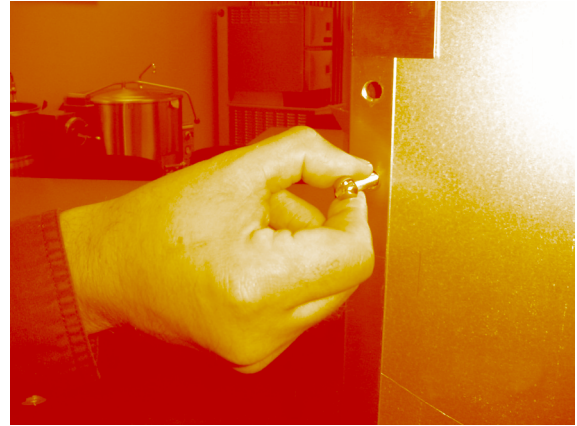

Fig. 8
9. From the rear of the range, secure the plate shelf to the backsplasher by placing four $\frac{1}{4}$ x 20 x $2\frac{5}{16}$ (6 x 509 x 59 mm) bolts provided into the existing bolt holes and tighten (Fig. 8).